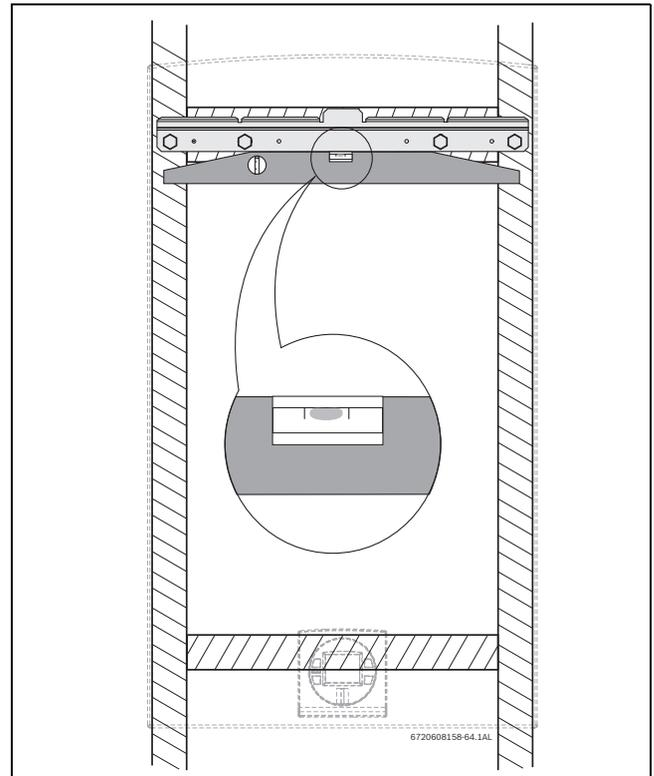

Fig. 27 Leveling wall mounting bracket
- ▶ Secure the wall mounting bracket provided with the heater to a wall surface. The heater must be kept level on the wall surface, see fig. 27, page 25.